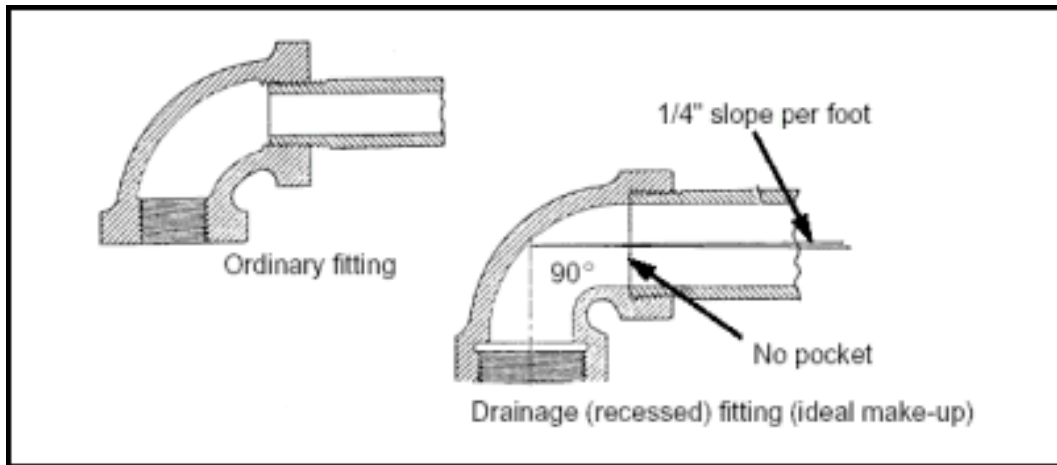

Figure 6-20. Ordinary and Drainage Pipe Fittings
6-48. Fittings (Figure 6-20) for this pipe are classified as either ordinary (standard) or drainage (recessed).
- **Drainage (recessed).** Drainage fittings are used in waste systems. They have threads at a slight angle so that horizontal drainage pipe will slope about 1/4 inch per foot (Figure 6-20). They range in size from 1 1/4 to 12 inches.